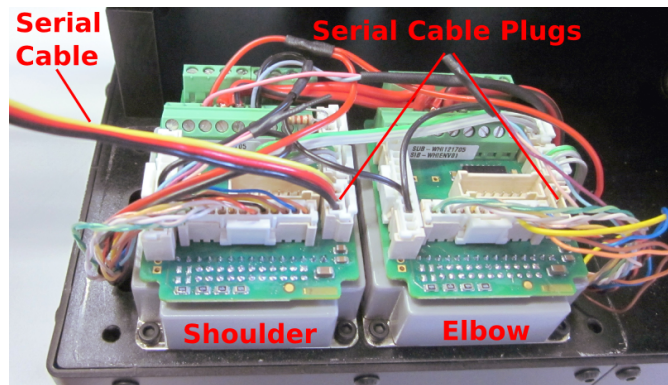

Figure 8: The two main motor controller of the arm. Left: shoulder controller; Right: elbow controller
1. Connect the serial cable to the targeted motor controller (see Figure 8).